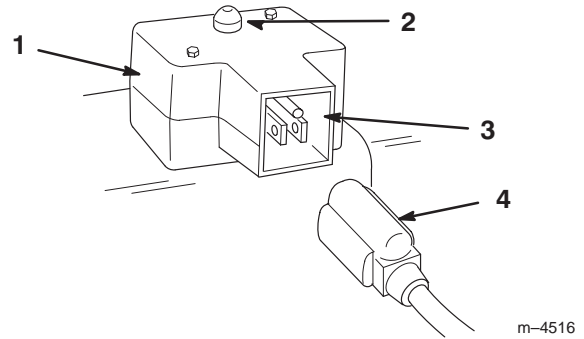

Figure 23
- **Electric Starter** (Fig. 23)—Push the starter button to start the engine.
- **Power Cord** (Fig. 23)—Connect the power cord to the electric starter and to an electrical outlet when starting the engine.
- A. Connect the power cord to the snowthrower (Fig. 23) and to a standard household power outlet.